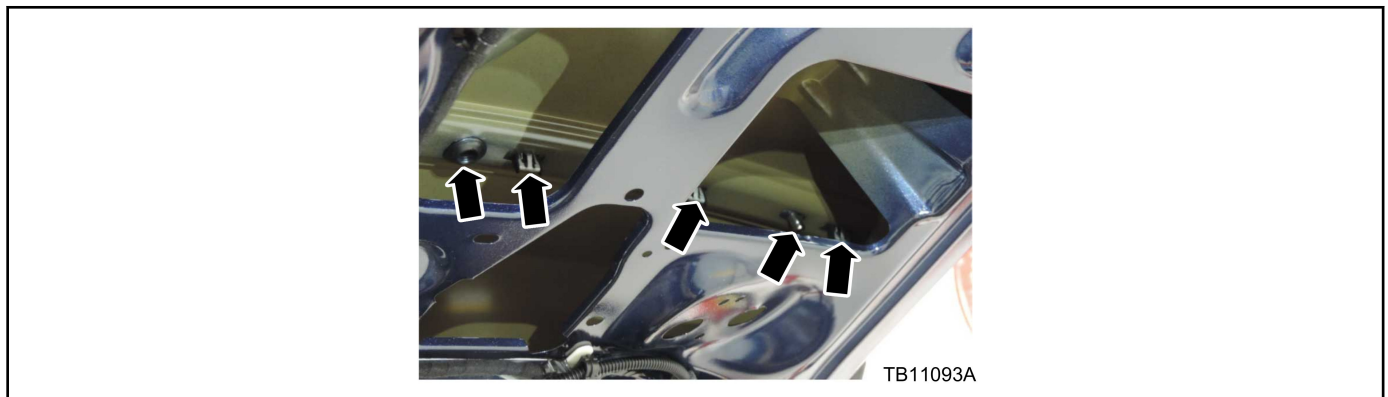

Figure 25 - Article 17-0044
- b. Rear applique attachments, right side. (Figure 25)